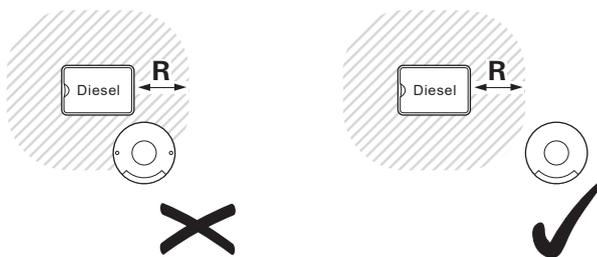
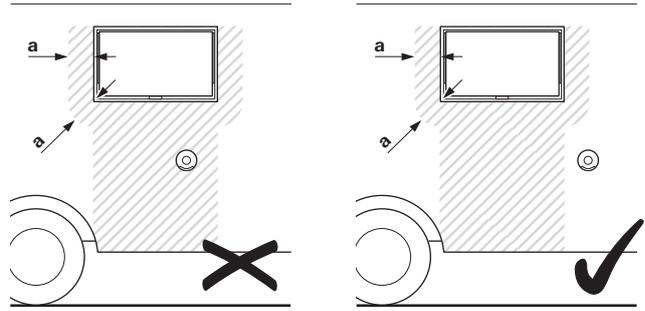

Fig. 3
Fig. 4
Install the wall cowl so that there is no fuel tank filler neck or fuel tank breather opening within 500 mm (R). (Fig. 3). There must also be no living area ventilation openings or window openings within 300 mm (Fig. 4).